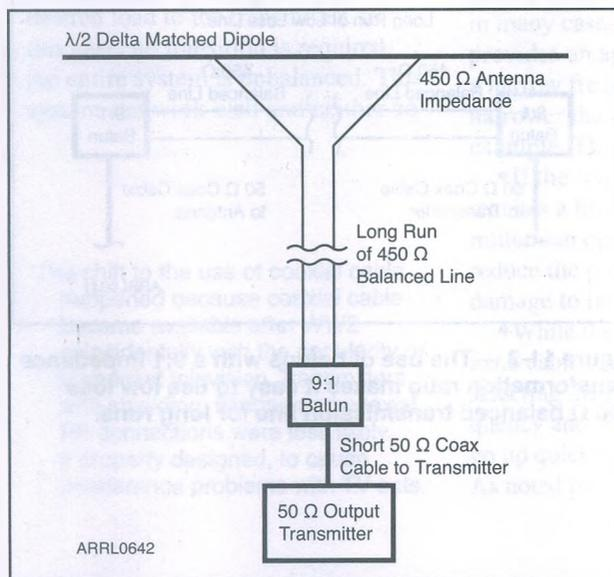
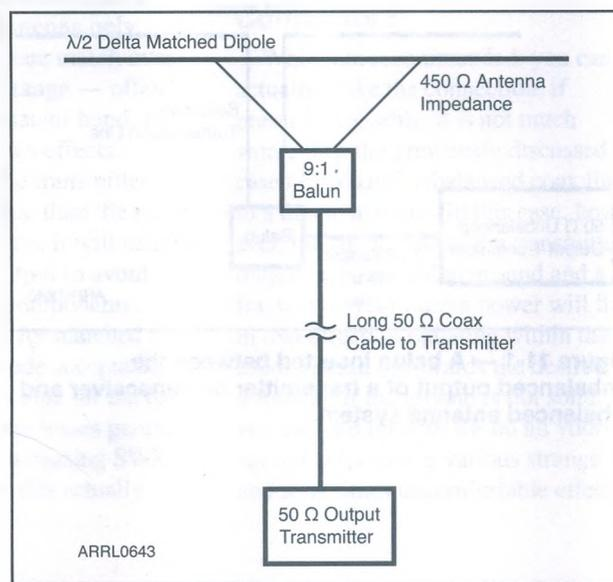

Figure 11-4 — Delta matched 450 Ω dipole fed by low loss 450 Ω balanced line to a 9:1 balun at the transmitter.
Figure 11-5 — Dipole fed by a 9:1 balun and 50 Ω coaxial cable to the transmitter.
A balun can be inserted anywhere in a system between a coaxial connection and the balanced load. As shown in **Figures 11-4** and **11-5**, the connection between an unbalanced radio and a balanced dipole can include a balun at either end of the transmission line run. Here we have used a dipole with a *delta match* adjusted to provide a 450 Ω balanced load at the antenna.
While the configurations of **Figures 11-4** and **11-5** appear to be equivalent, and both can work well as shown, there are advantages to each:
- The configuration of **Figure 11-4**, using a long run of 450 Ω balanced line, will usually have less loss than the system in **Figure 11-5** due to the characteristics of the transmission line. The difference will depend on the frequency, line length and type of coax. Some representative loss figures are shown in **Table 11-1**.
- Using coaxial cable for the run, as in **Figure 11-5**, has its own advantages.